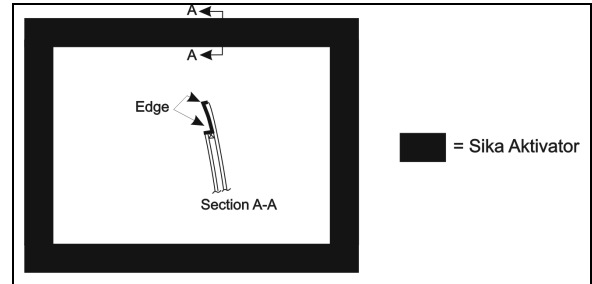
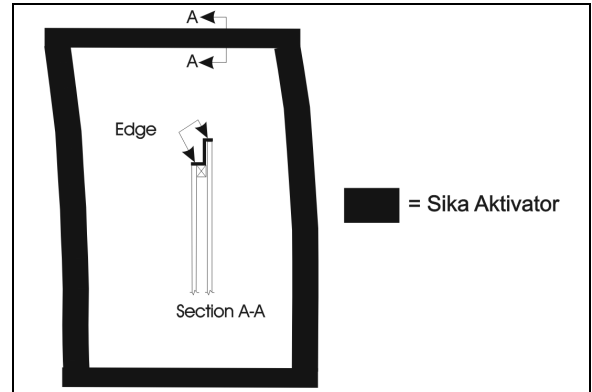

FIGURE 54 : FACE FIXED WINDOW AND HALF-WINDOW – SIKA AKTIVATOR
FIGURE 55 : SIDE FIXED WINDOW – SIKA AKTIVATOR
5. Apply Sika Aktivator on the window pane as per FIGURE 54 or FIGURE 55.